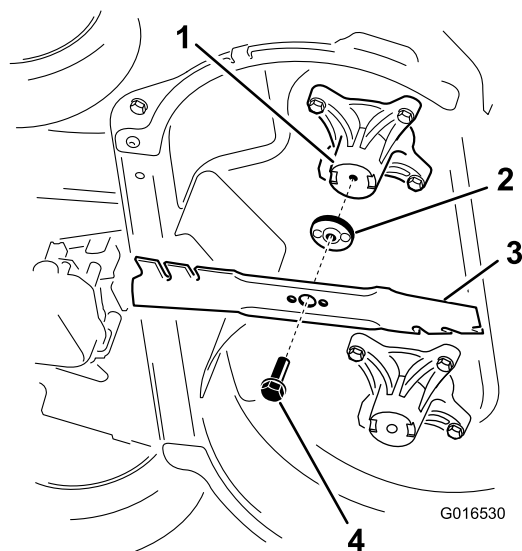

Figure 39
2. Remove each blade as shown in Figure 39.
1. Install the first blade so that it is horizontal, along with all mounting hardware as shown in Figure 39.